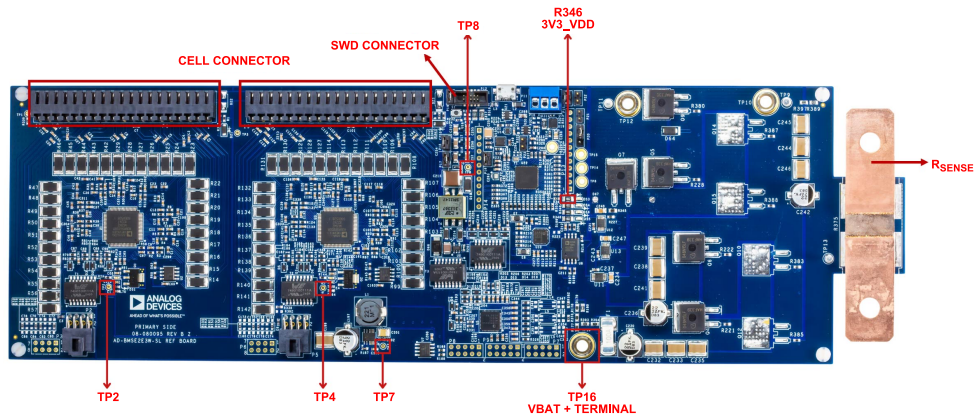

Figure 2. AD-BMSE2E3W-SL Test Points and Connectors
7. Connect the alligator clip cable (red) to the **VBATP Pin** or the third of the Pin 17 header of the DC2472A battery emulator. Then, insert the other end of the cable (banana jack plug) to the **TP16 (VBAT+ terminal)** of the AD-BMSE2E3W-SL board. See Figure 2 for the pin locations.